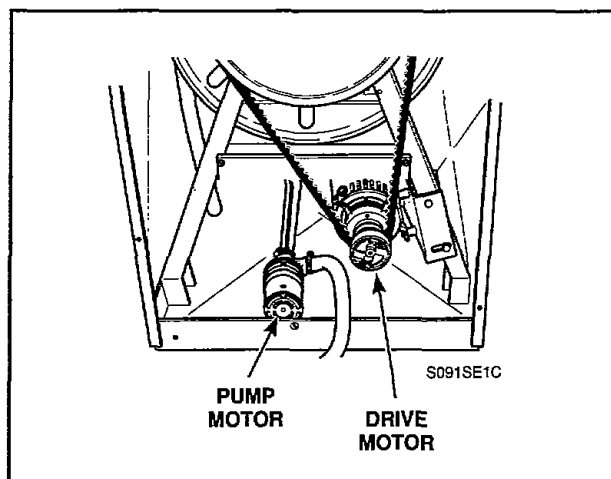

Figure 60
51. PUMP MOTOR (Refer to Figure 60)
52. DRIVE MOTOR (Refer to Figure 60)